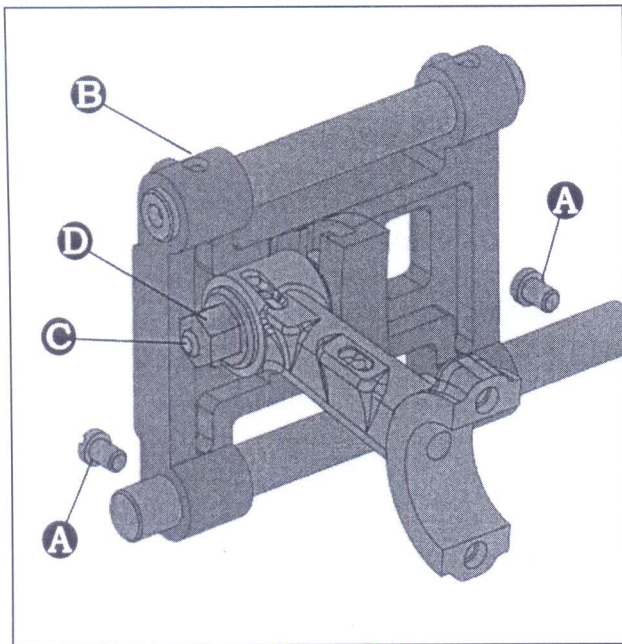

FIGURE 7
After loosening screws (A, Fig.7) rear in the feed rocker (B) the feed bar with feed dog can be moved laterally to center the feed dog in the throat plate slot, if required. Retighten screws (A).
On Model No.ST 6006 UDDR, the stud (C, Fig.7) for setting the stitch length is accessible from the outside. The length of the stitch can be adjusted by raising or lowering the stud (C, Fig.7) in the segment slot of the feed rocker (B). Lowering stud (C) will lengthen the stitch, raising the stud will shorten the stitch. After loosening nut (D), stud (C) can be moved accordingly. When the desired stitch length is obtained, retighten nut (D).